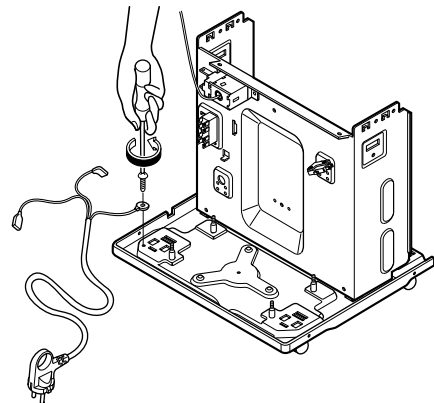

Figure 17
2. Remove a screw which fastens the earth wire of the power cord assembly. (See Figure 17)
4. Remove the power cord assembly. (See Figure 17)